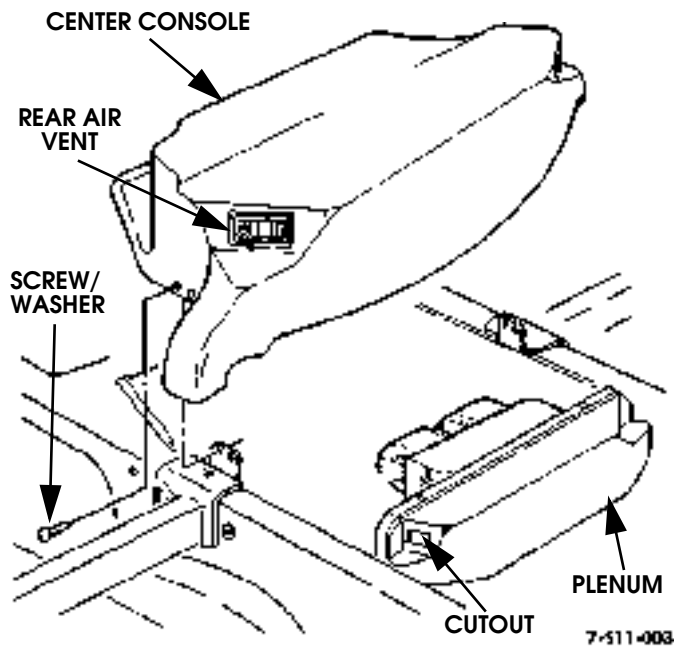

Figure 10-12: Center Console Replacement
1. Remove four screw/washers from center console. (Figure 10-12).